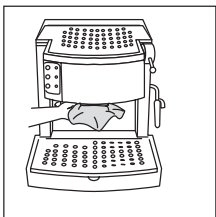

fig. 16
**IMPORTANT: Should the coffee holder for pods be used after one for ground coffee, it's necessary to clear the ground coffee remained in the espresso boiler outlet (fig. 16). This cleaning operation is necessary in order to avoid water leakages.**
- Clean the boiler with a damp cloth (fig. 16);